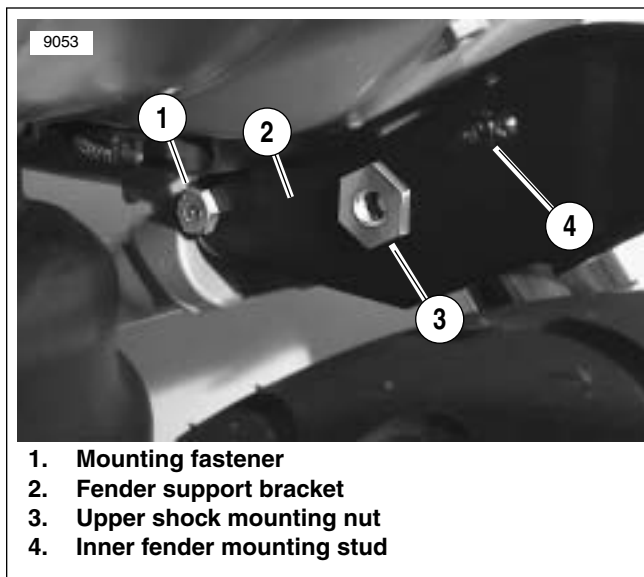

Figure 2-176. Right Side Fender Support Bracket
9. Remove fasteners (2) holding inner fender to fender support brackets.
10. Remove fasteners mounting inner fender to fender weldment. Remove wiring harness as required and remove inner fender (1).
13. See Figure 2-176. Remove two inner bolts fastening support brackets to frame side rails. Remove support brackets.
2. See Figure 2-176. Loosely install both fender support brackets (2). Finger tighten fasteners (1).
3. Insert upper shock mounting nut (3) through support bracket and into frame side rails.